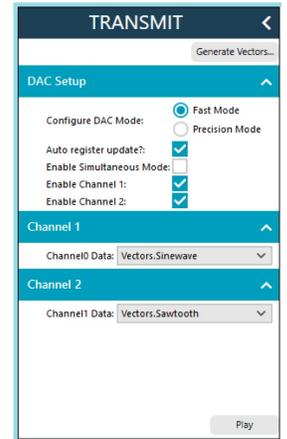

Figure 13. Waveform Generation in Dual Mode
- ▶ **Enable Channel 1/Enable Channel 2**: these checkboxes allow enabling channels individually. When both channels are enabled, each one can play a different waveform, as seen in Figure 13. The update rate depends on the DAC mode and the update mode. All the combinations are shown in Table 8.